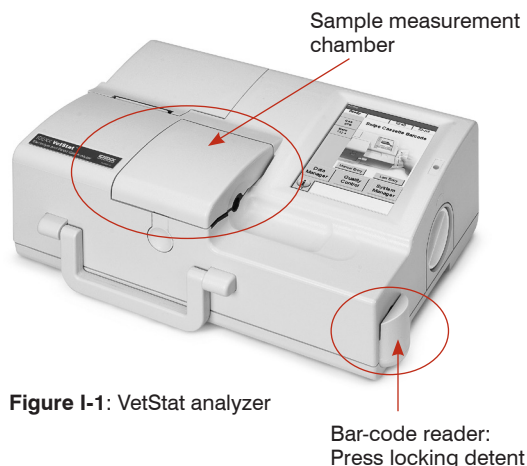

Figure I-1: VetStat analyzer
1. Press in the locking detent located on the bar-code reader guide (Figure I-1).
Open the SMC cover (Figure I-1) and clean the optics surface, as well as the underside of the SMC cover, with a lint-free cloth that has been dampened with isopropyl alcohol. A cotton swab can be used to clean the smaller parts of the SMC.